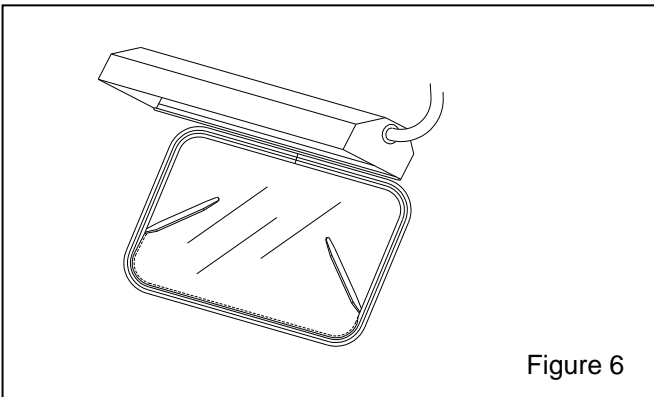

Figure 6
7. Use a nylon window stick, Stock No. 22933, as shown in Figure 6, and work the window channel lip over the glass. When this is done, the window should be entirely within the molding's window channel.